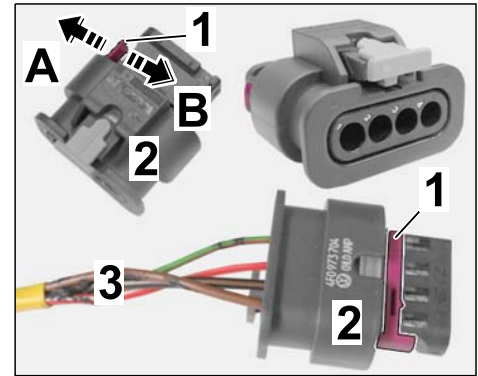

Figure 22
3.4.1 Release the socket housing (4-pin, see parts list) (\Rightarrow *Figure 22 -A-*).
3.4.3 Lock the socket housing (4-pin, see parts list) (\Rightarrow *Figure 22 -B-*).